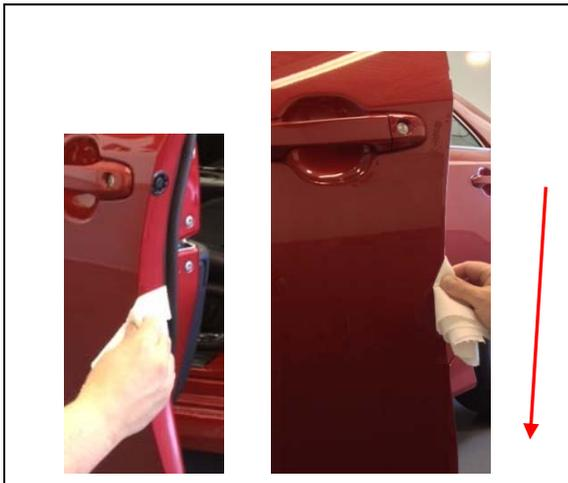

Fig. 2-2
(2) Using the second lint free cloth, thoroughly dry the area free of Simple Green (or VDC approved) cleaner previously applied. In some instances a rubber weather seal may be found – ensure to clean between the trailing edge and rubber seal. (Fig. 2-2) Turn the cloth repeatedly to attain a dry surface.